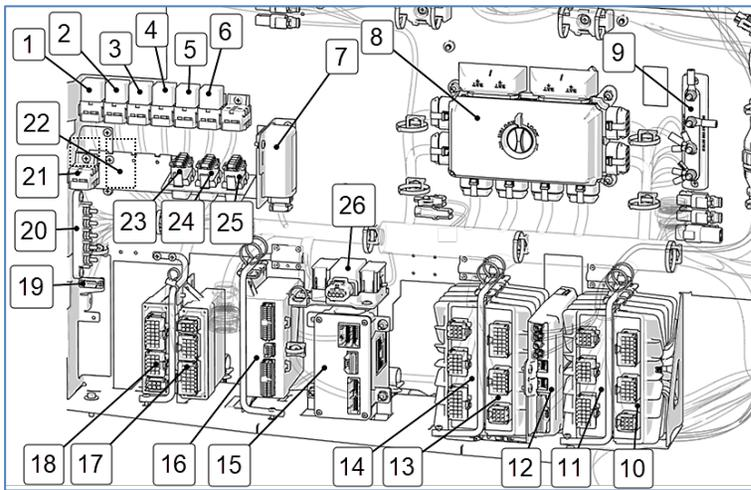

Figure 4
6. Locate the RS232 serial port into the front service compartment (item 19, Figure 4).